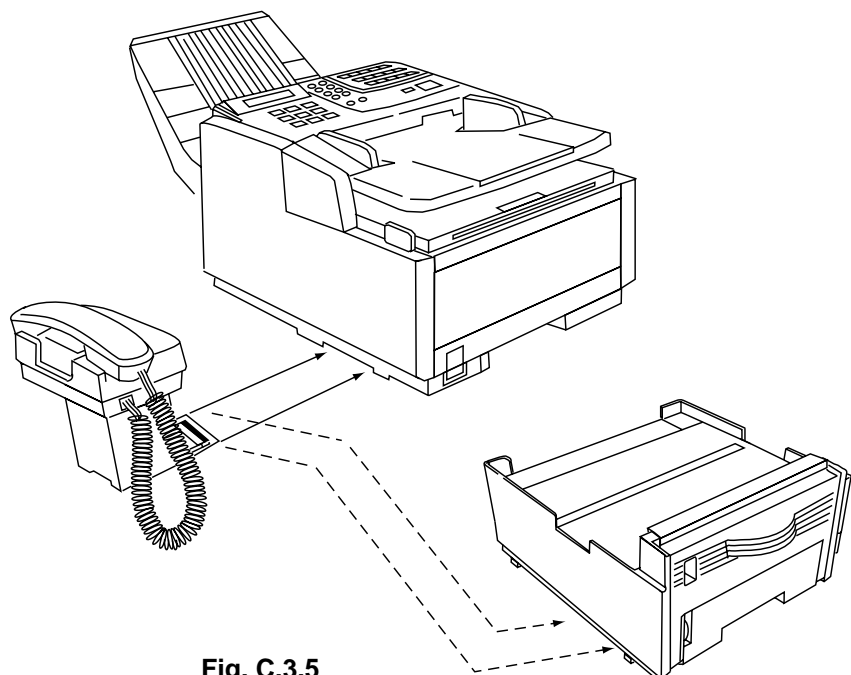

Fig. C.3.5
- (6) Install the telephone assembly on the facsimile transceiver unit. In this case, cram the telephone assembly into the position of Fig. C.3.5 by lifting the facsimile transceiver unit slightly. When 2nd tray is mounted on the facsimile transceiver unit, install the telephone assembly in the position of Fig. C.3.5.